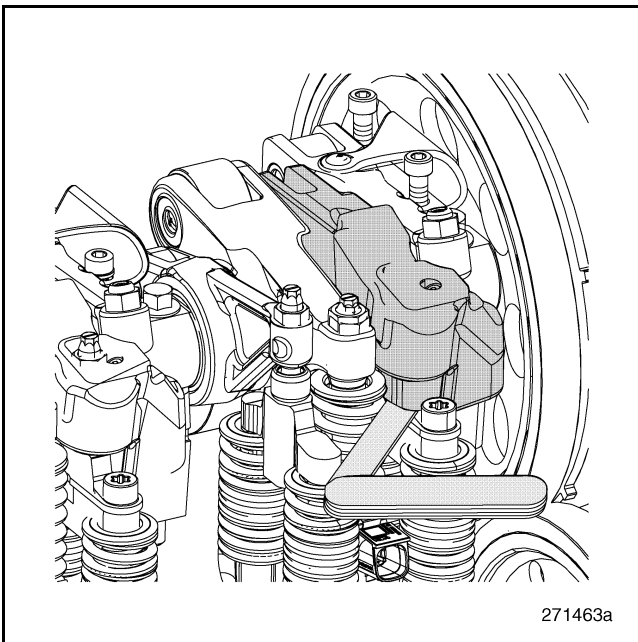

Figure 509 — Measuring Exhaust Valve Clearance
3. Measure the clearance between the exhaust rocker arm piston and the shim on top of the valve yoke (bridge) as shown in Figure 509.